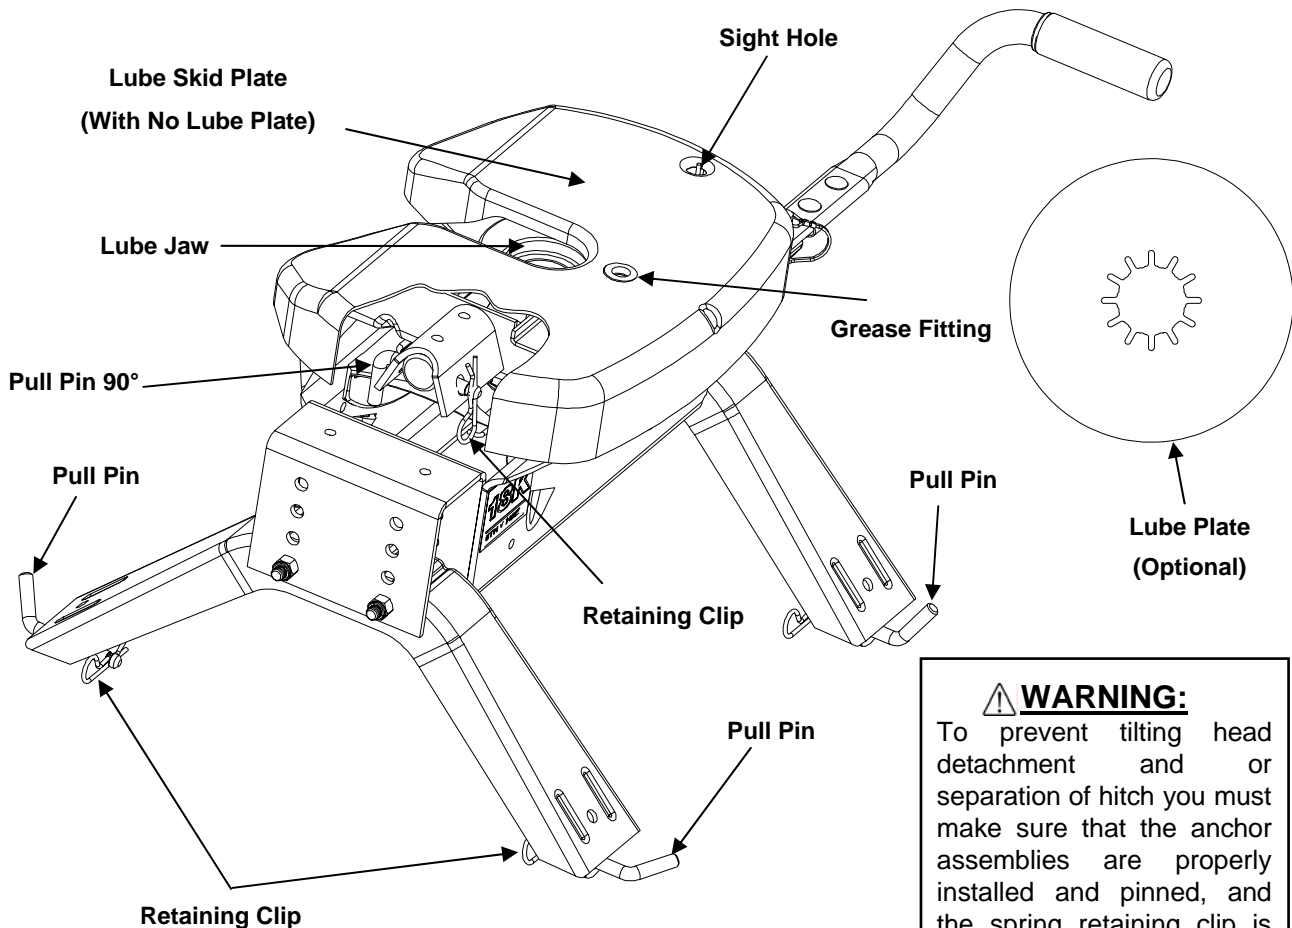
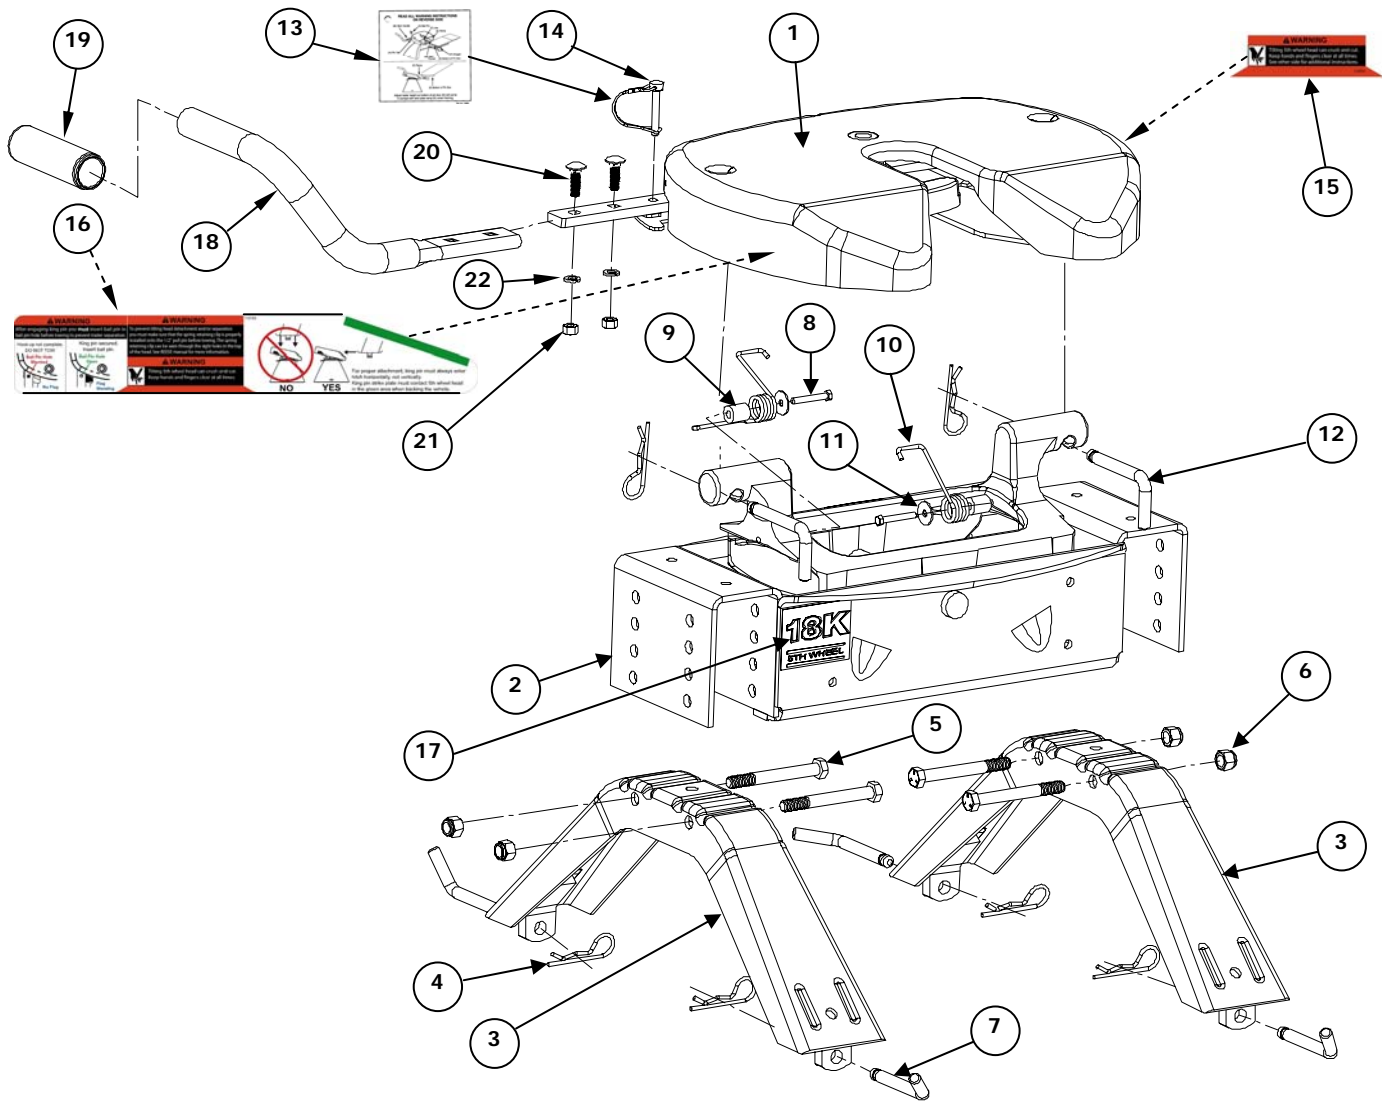

Figure 1 : Pin and Clip (Skid Plate cut away view)
Figure 11
4. See that all hitch pull pins (#7 (P/N 30434) & #12 (P/N 110974), Figure 11) are in place and the spring retaining clips (#4, Figure 11) are installed (Figure 1). Note that hitch pull pins used to attach the head assembly to the center section for the *Select Plus Series* Hitch are 90 degree bent pins and if replacements are needed, please contact Customer Service at (800) 632-3290. Check that all four anchor assembly pins are pinned and have the retaining clips attached.